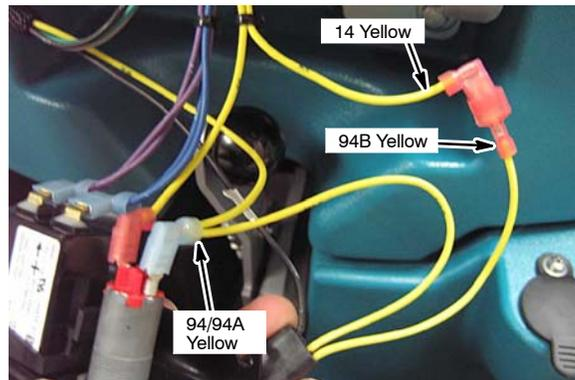

Fig. 24
- Connect ec-H2O harness wires 94/94A yellow to key switch as shown (Figure 24). Connect 94B yellow to wire 14 yellow.